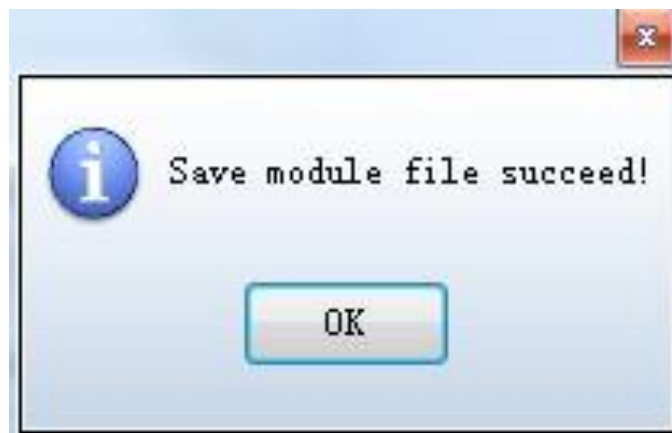

Figure 5 Module file saved succeed message
5. The message as shown in Figure 5 will be shown when the module file is saved. Click OK. Close the Details Of Module window and return to the Scan Board page.